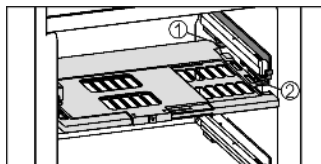

Fig. 13
- To insert the humidity control plate: Insert the cover mouldings of the plate into the rear holder Fig. 13 (1) from underneath and engage them in the holder Fig. 13 (2) at the front.